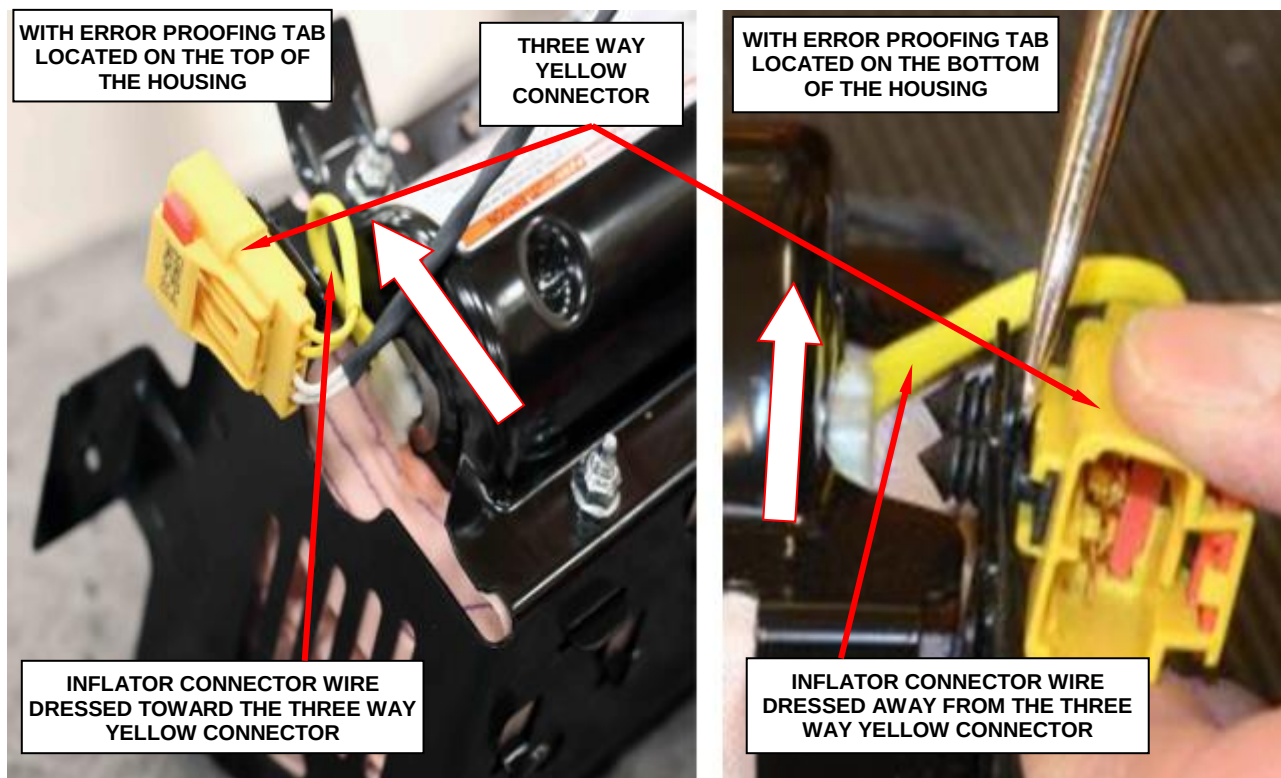

Figure 27 – Inflator Wire Connector
- n. Connect the yellow inflator wire connector (Figure 27).
NOTE: The yellow inflator wire connectors are oriented in opposite directions depending on the location of the error proofing tab (Figure 27).
- o. Connect the yellow three way inline connector to the mounting points on the housing (Figure 27).